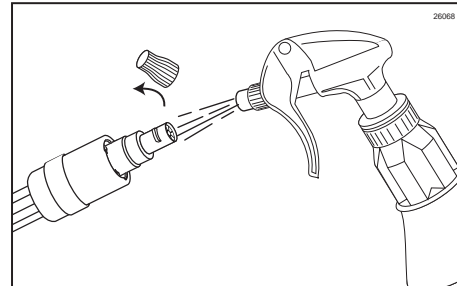

Figure 10
4. Remove the Manifold cap and set it on a sanitary tray. Spray the Syrup Line Manifold opening with approved sanitizer solution and allow it to sanitize for at least 1 minute. (See Figure 10.)